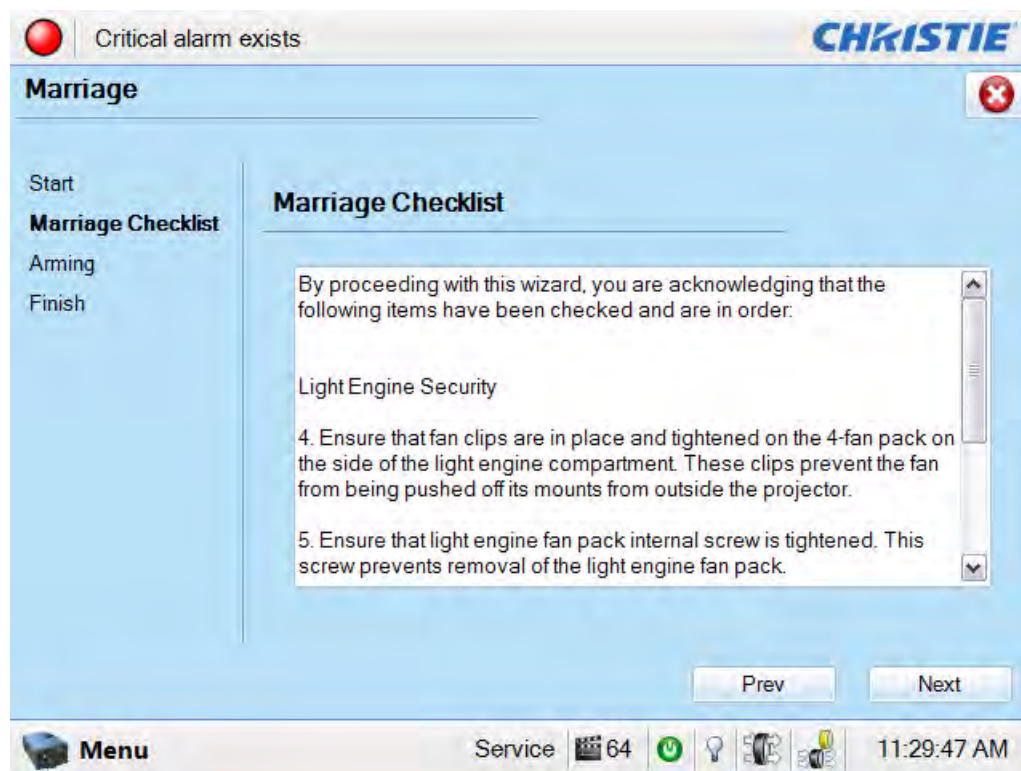
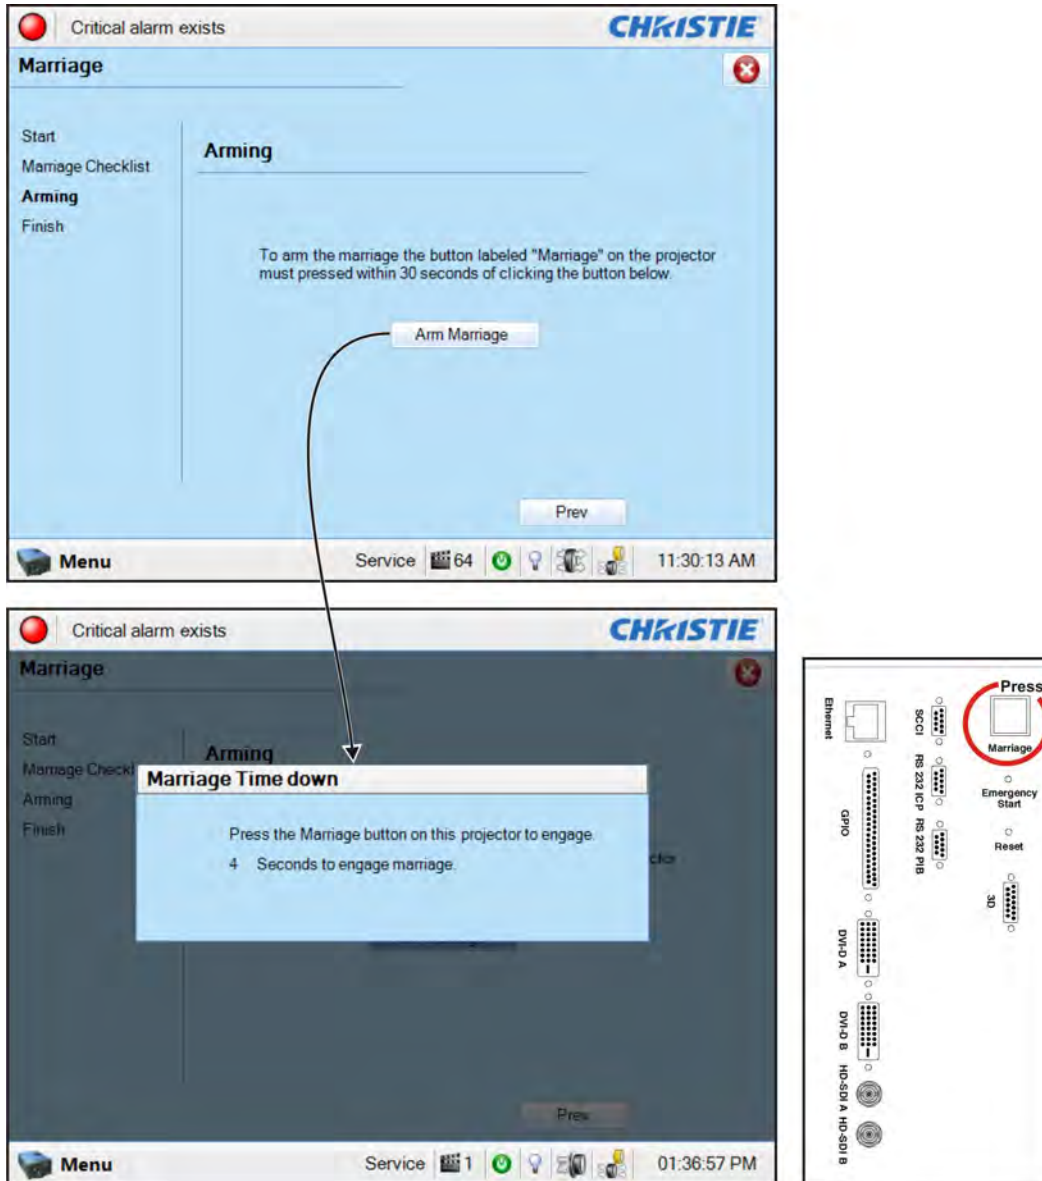

Figure 3-18 Administrator Setup: Marriage Checklist Window
Figure 3-19 Press Marriage Button on PI Board after Clicking Arm Marriage Button
Marriage is the engaging of the DCI physical interlocks that enable the display of secured materials. The **Marriage** window begins a series of panels that guides you through the sequence of steps required to activate marriage. The left column of the **Marriage** window shows which state you're currently at in the marriage process. (Figure 3-18) Click the **Next/Prev** buttons to navigate the series of steps. **NOTE:** Only Christie authorized service technicians can activate marriage. One of the key ideas behind marriage is that an authority figure examine the projector and ensures that it has not been tampered with before a marriage can be performed. This means that a person must be physically at the projector when the marriage is performed - it cannot be done remotely. To ensure this, there is a marriage button on the PI Board panel which must be pressed in order for the marriage to complete. The following are the steps that must be followed for you to perform marriage on the projector.
2. In the **Marriage Checklist** window (Figure 3-18), the wizard checks that all tamper switches are secure and it presents a list of items that you must check to ensure the projector is secure before proceeding. Click the **Next** button to proceed to the **Arming** window.
3. In the **Arming** window, click the **Arm Marriage** button. (**Figure 3-18**). A 30 second count-down timer begins. (**Figure 3-19**). The LED in the **Marriage** button on the PI Board will flash green during this count-down. You **MUST** press the **Marriage** button on the PI Board within this 30 second window in order for the marriage to take effect. When the **Marriage** button is pressed, the LED button will change to a solid green to indicate a successful marriage.